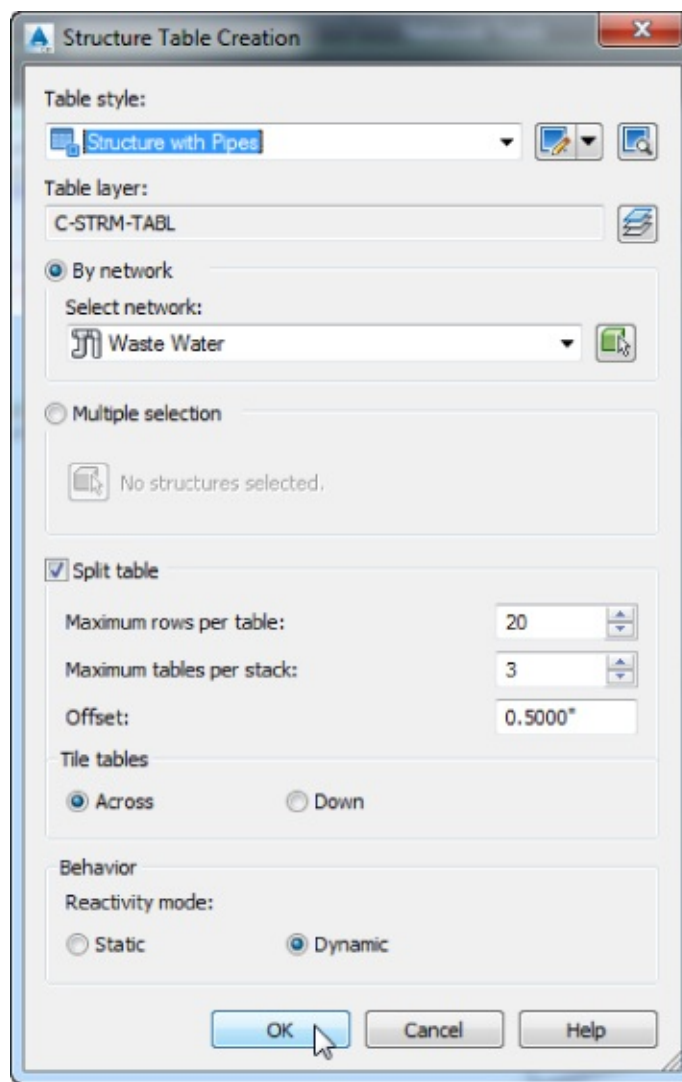

Figure 13.72 The Structure Table Creation dialog box
Because the Structure Table Creation dialog and Pipe Table Creation dialog are similar (see Figure 13.72), we will cover both of them in this section.
4. Verify that the By Network option is set to Waste Water. Click OK to accept the default settings (shown in Figure 13.72).